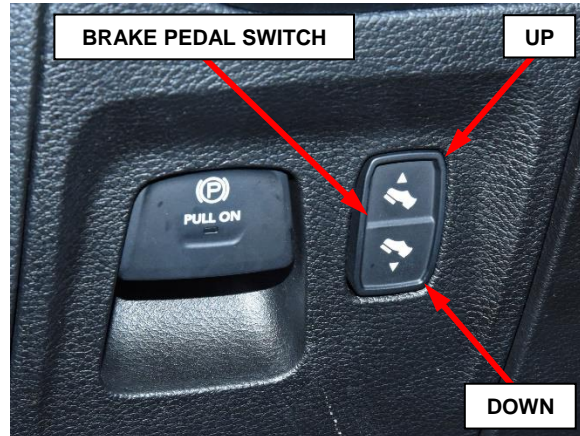

Figure 2 – Adjustable Pedal Switch
1. Press the adjustable pedals lower button to position the pedal assembly down as far forward as possible toward the cowl and away from the driver seat (Figure 2).
14. Using the adjustable pedals switch, move the pedal assembly fully to each limit of its travel, fully rearward and fully forward. This operation will automatically program the pedal new travel limits (Figure 2).